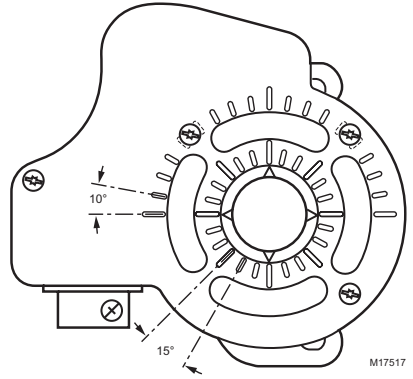

Fig. 6. Auxiliary switch angular indications.
- Interior angular indications appear in 15 degree increments (see Fig. 6).
- Exterior angular indications appear in 10 degree increments (see Fig. 6).
- Four 10 degree indications are not on the cover (see Fig. 6).